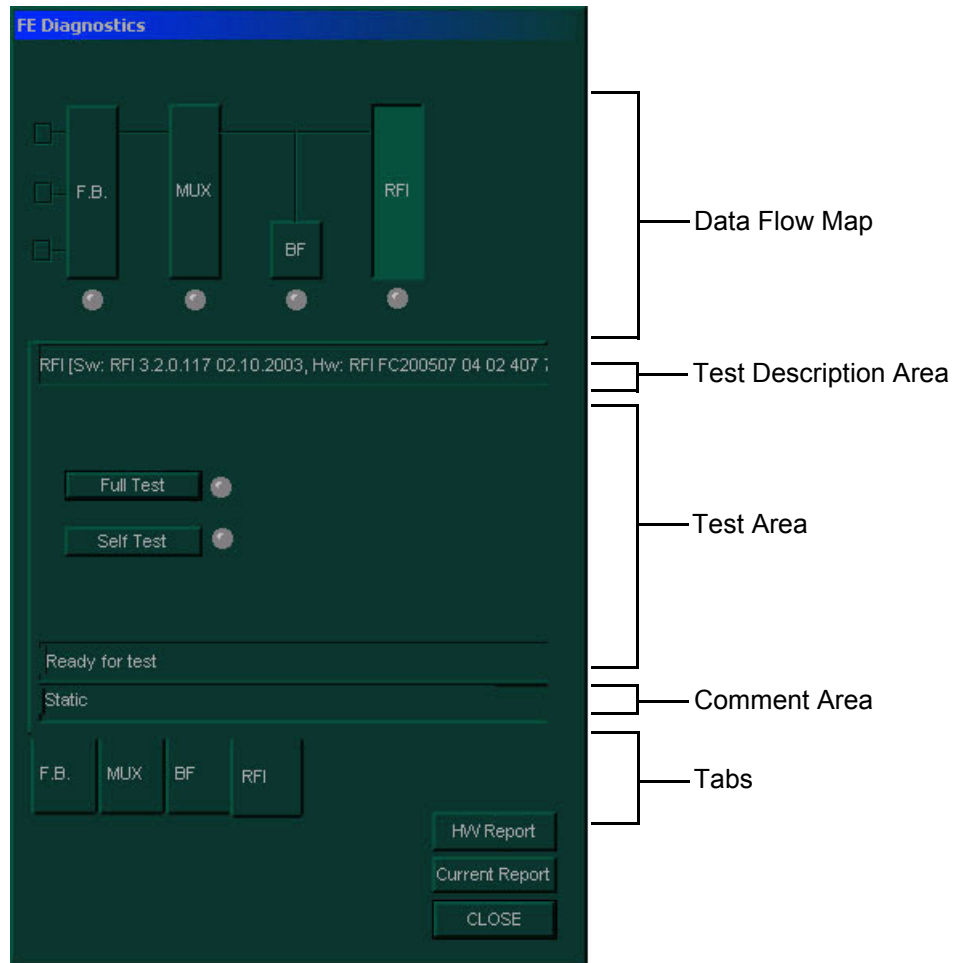
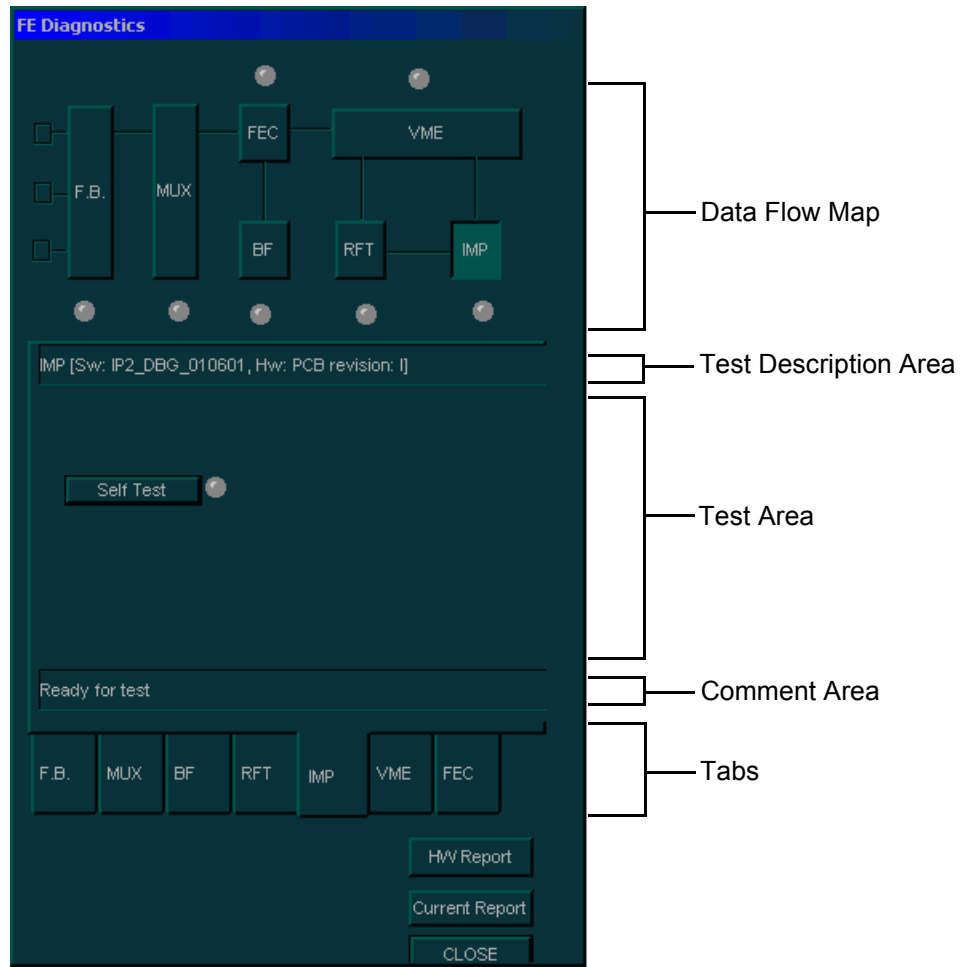

Figure 7-3 FE Diagnostics Dialog Box - RFI Configuration
Figure 7-4 FE Diagnostics Dialog Box - RFT Configuration
- 1.) In the *Diagnostic* menu, trackball to the **Front End** button and press **Select**. The *FE Diagnostics* dialog box is displayed, as shown in Figure 7-3 (or Figure 7-4) below: